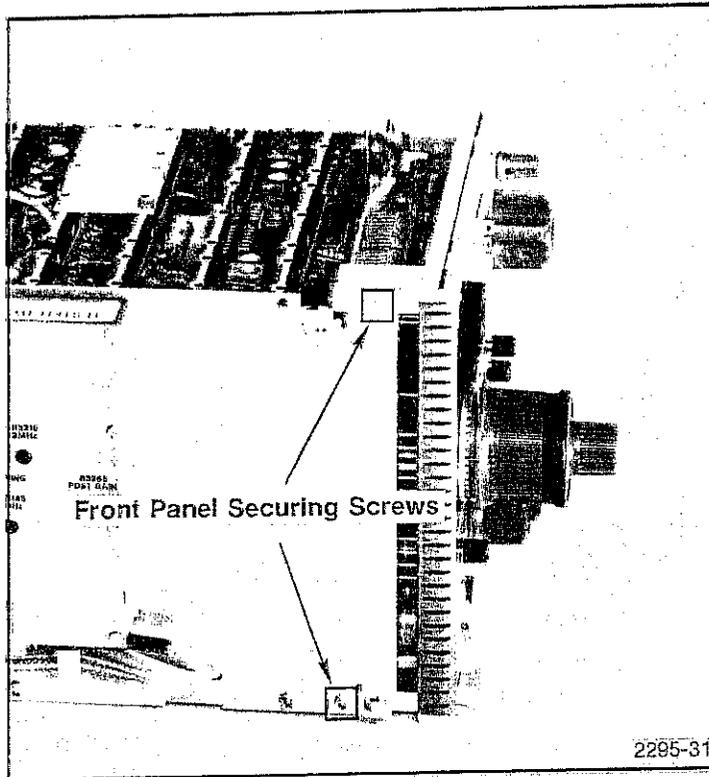

Fig. 4-23. Location of Front Panel Securing Screws.
a. With the 7L18 out of the oscilloscope mainframe and power to the instrument turned off, move the Left and Right sections apart to provide access to two Pozidriv® screws located at the top and bottom near the front of the instrument (see Fig. 4-23). Remove these two screws.